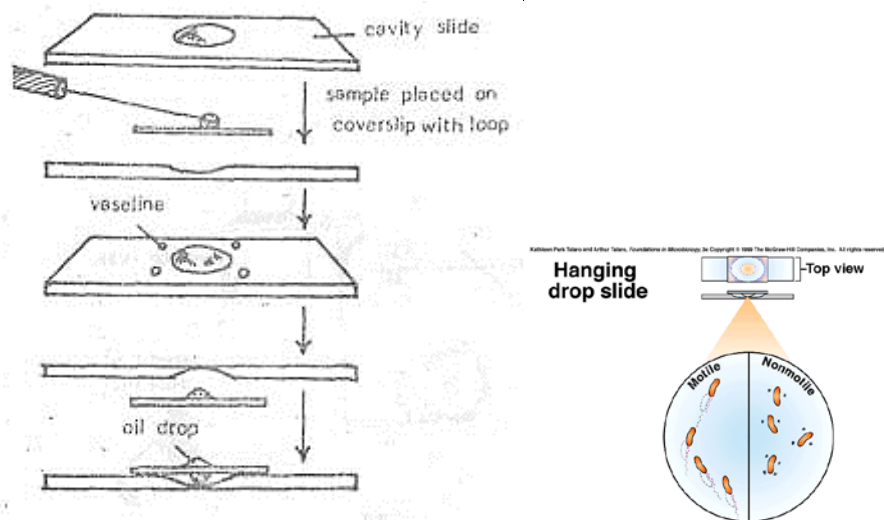

Fig.3 Hanging drop method
**d) Hanging drop mount:** It is used to observe the motility or germination or fission of microorganisms (**Fig.3.**). In this method a cavity slide, which has a circular concavity in the centre, is used. The periphery of the concavity on the cavity slide is smeared with Vaseline. A drop of liquid microbial culture is placed in the center of the cover glass for liquid culture. If the culture is grown on a solid media, it is mixed with a drop of distilled water before placing on the cover glass. The cover glass is inverted over the concavity so that the drop hangs freely and the edge of cover glass adheres tightly to the Vaseline coated periphery of the concavity. The microorganisms present in the hanging drop are now observed for their type of mobility under the microscope **Fig. 3 Hanging drop method**